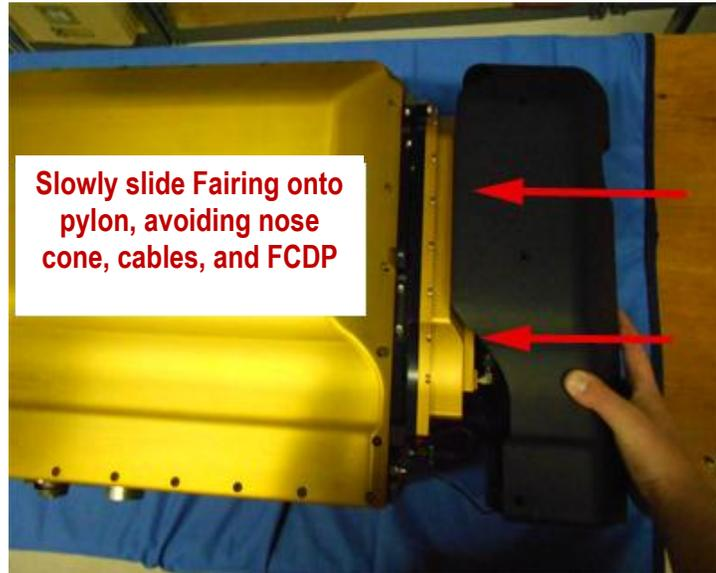

Figure 3.1.13. Carefully slide Front Fairing back onto pylon.
3. Next, slowly slide the fairing onto the pylon body, making sure to avoid the nose cone and not getting the cables caught (**Figure 3.1.13**).